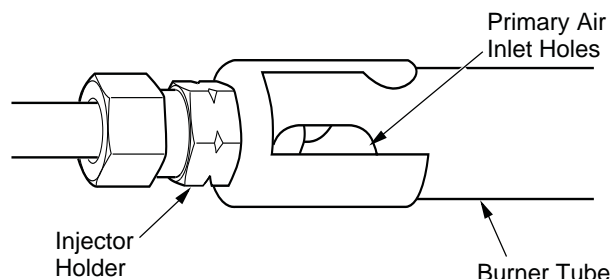

Figure 36 - Injector Holder On Outlet Burner Tube
2. Inspect burner, pilot, and primary air inlet holes in rear burner for dust and dirt (see Figure 36).